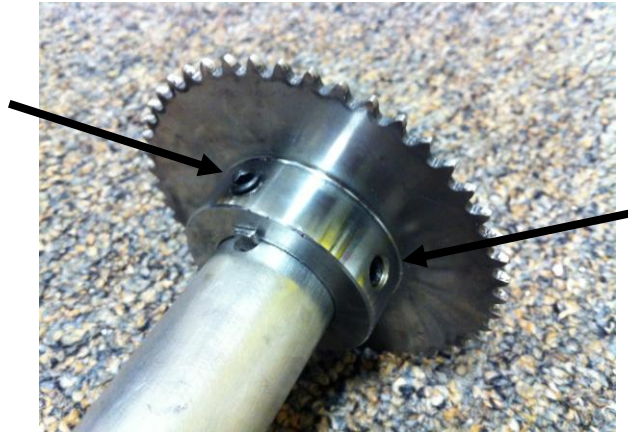

Figure 28 – Locking screw in shaft sprocket
- d. Tighten the two lock screws in the collar of the sprocket to hold it in place, as shown in Figure 28.